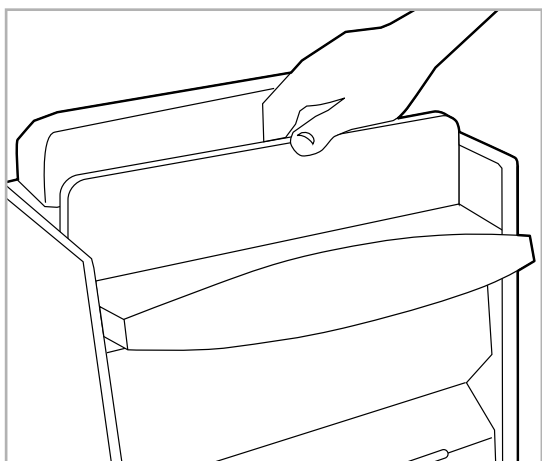

Figure 3.7
5) Attach the background stone (see Figure 3.7).